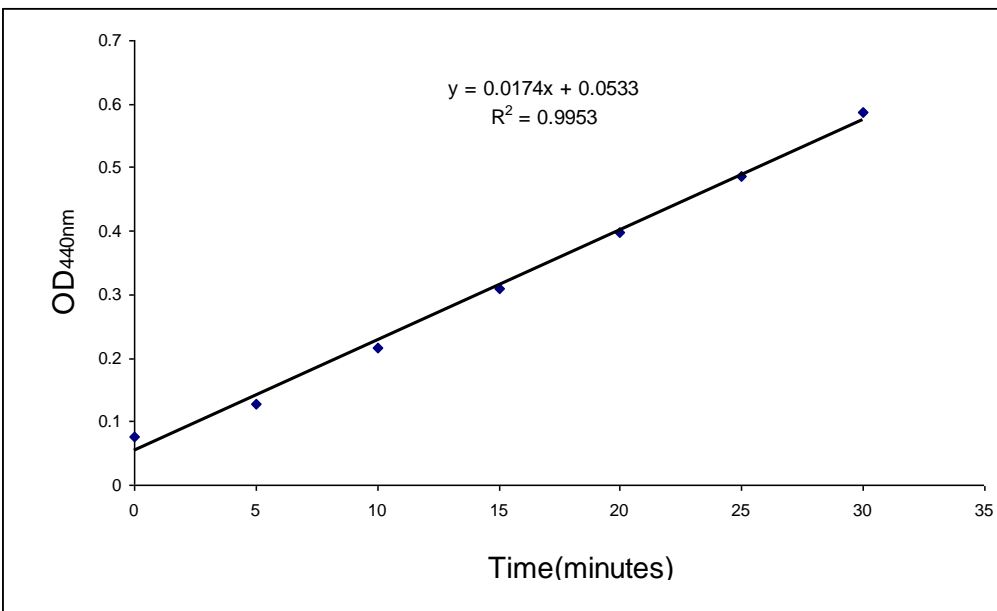

Figure 1. Absorbance change of diluted PDH positive control at 440nm.
Diluted PDH positive control is measured with the PDH Assay kit after different reaction times (Figure 1 and 2). The detection limitation is from 0.005 to 0.08 U/mL.
2. Add 90 μL of working reagent mix into each well of the 96-well plate containing the diluted PDH positive control, samples, and blank. Mix well immediately and start recording $\text{OD}_{440\text{nm}}$ over 30 minute intervals, collecting data every 5 min. Figure 1 shows the data of diluted PDH positive control.